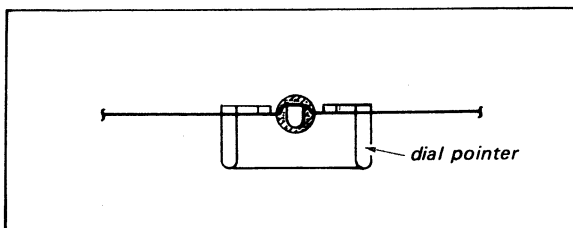
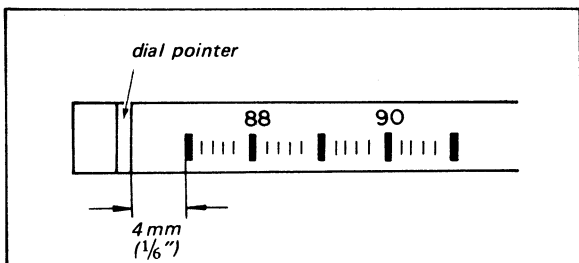

Fig. 2-12 Dial pointer installation
Fig. 2-13 Mechanical dial calibration
1. Put the dial pointer on the cord as shown in Fig. 2-12 and move it to a position where the pointer comes to about 4 mm ($\frac{1}{8}$ ") left from the lowest dial mark (87 MHz) as shown in Fig. 2-13, when the tuning-capacitor drive drum is rotated fully clockwise.